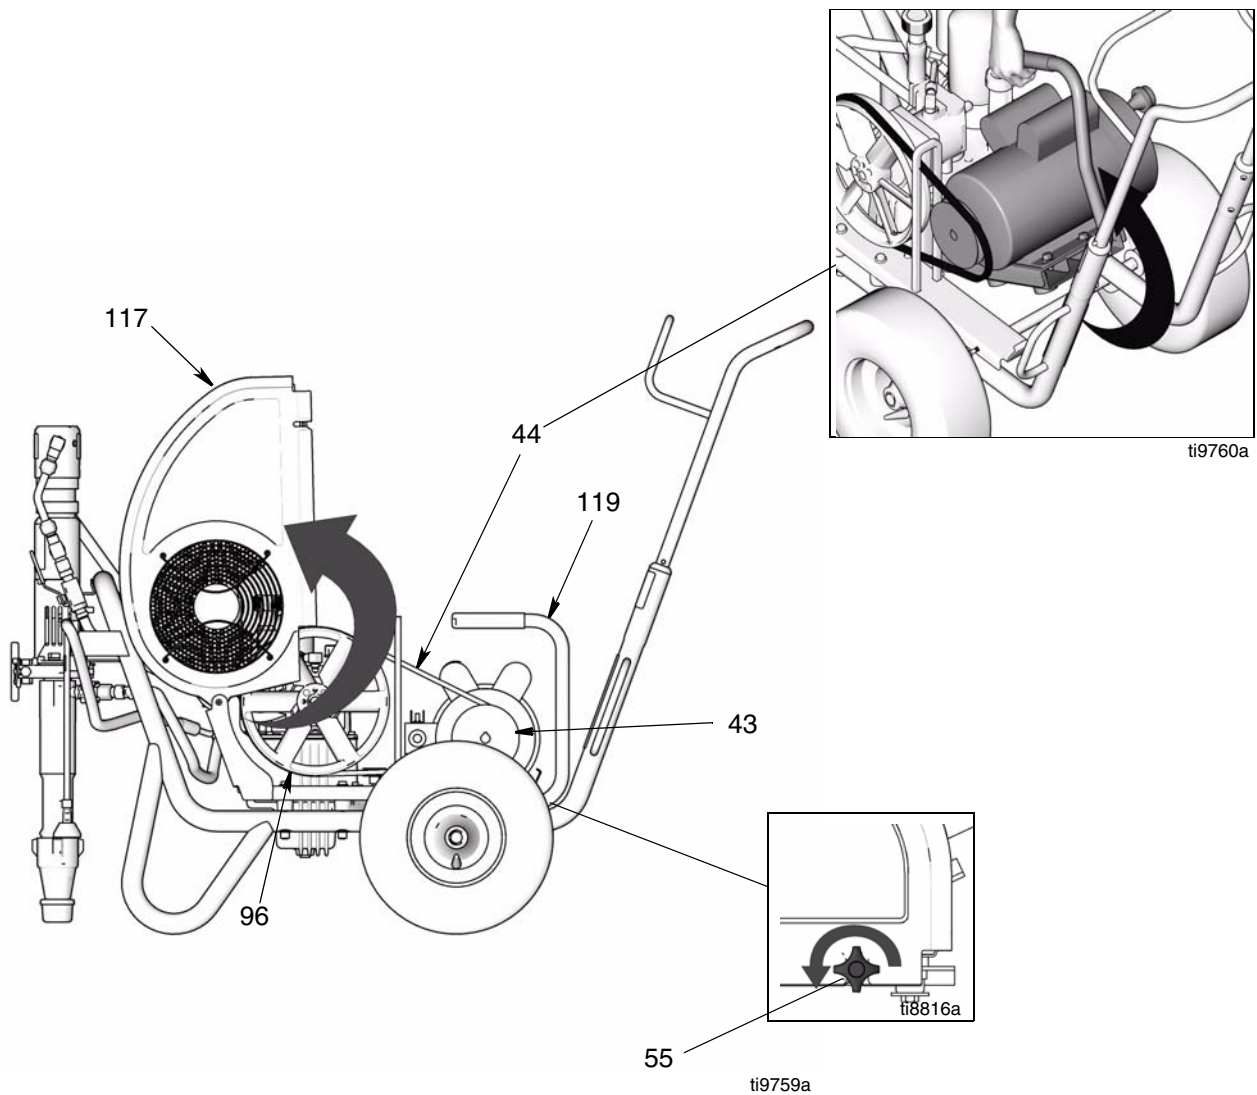

FIG. 3
2. (Fig. 3) Loosen belt guard knob (55).
3. Rotate belt guard (117) up.
4. Lift motor (119) up to remove tension on belt (44).
5. Remove belt from pulley (43) and fan pulley (96).